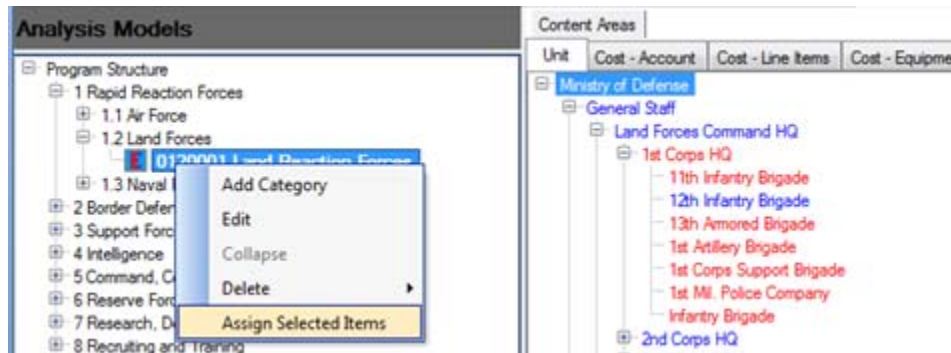

Figure 6-48. Left Pane Shortcut Menu
- By choosing either the **Unit** or **Unit and Subordinates** sub-option, the selected Unit is available for assignment by selecting the appropriate category in the left pane and right-clicking to activate the menu shown in Figure 6-48.